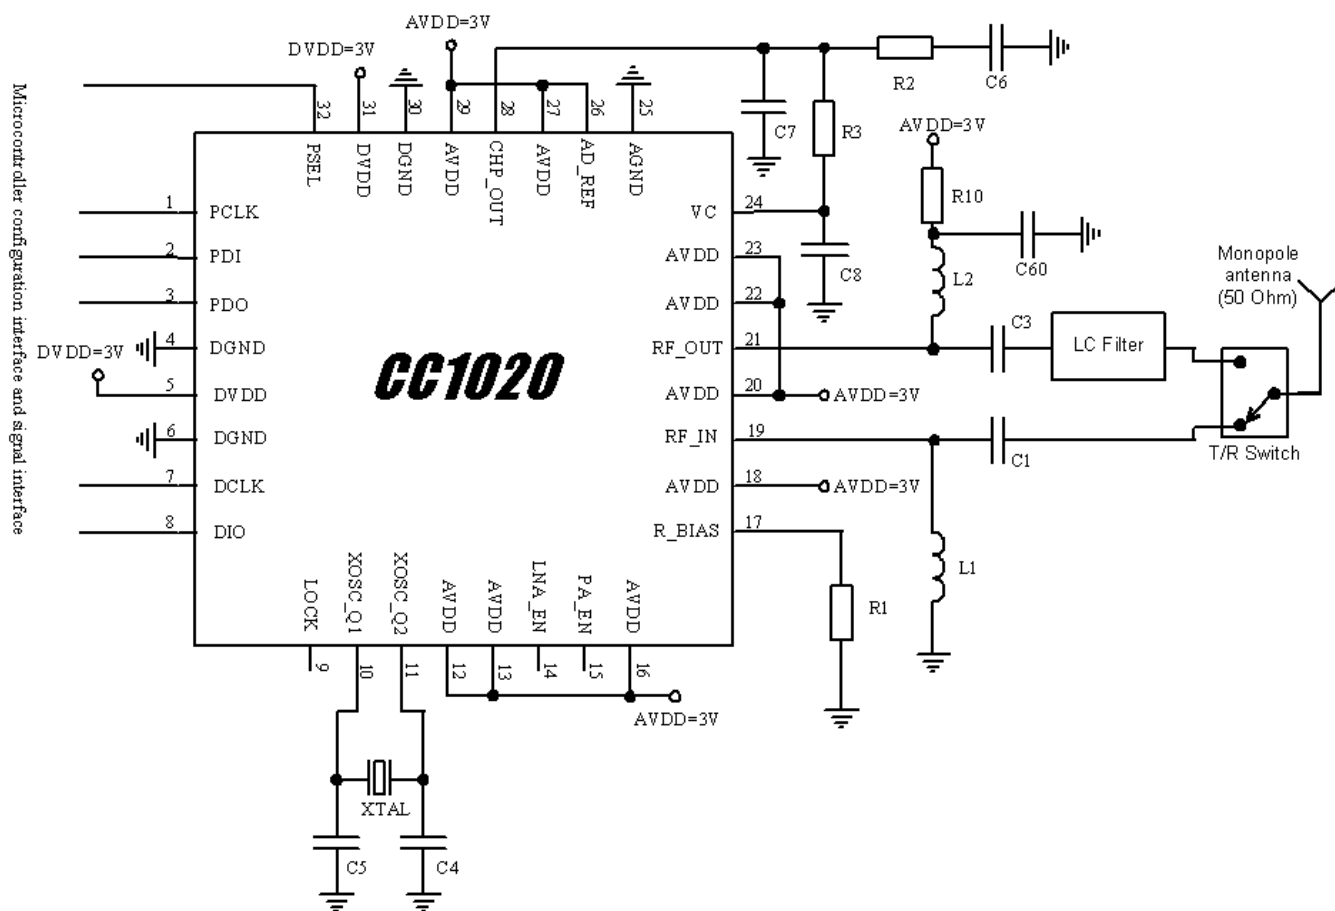
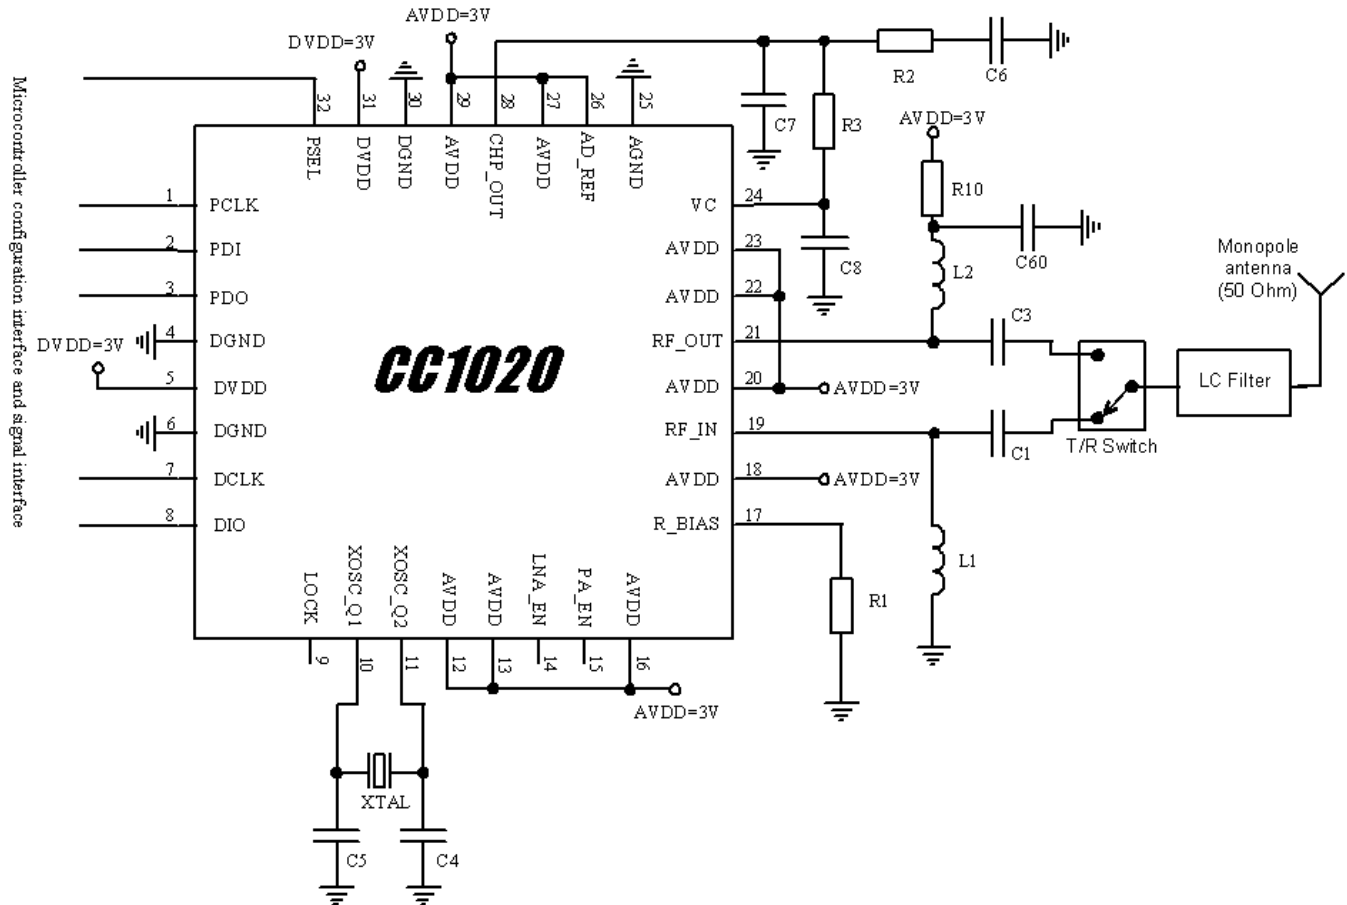

Figure 6-1. Typical Application and Test Circuit (Power Supply Decoupling Not Shown)
Figure 6-2. Alternative Application Circuit (Power Supply Decoupling Not Shown)
Very few external components are required for the operation of the CC1020 device. The recommended application circuit is shown in Figure 6-1. The external components are described in Table 6-1 and values are given in Table 6-2.
**Table 6-2. Bill of Materials for the Application Circuit In Figure 6-1** (1)(2)
The LC filter in Figure 6-1 is inserted in the TX path only. The filter will reduce the emission of harmonics and the spurious emissions in the TX path. An alternative is to insert the LC filter between the antenna and the T/R switch as shown in Figure 6-2.